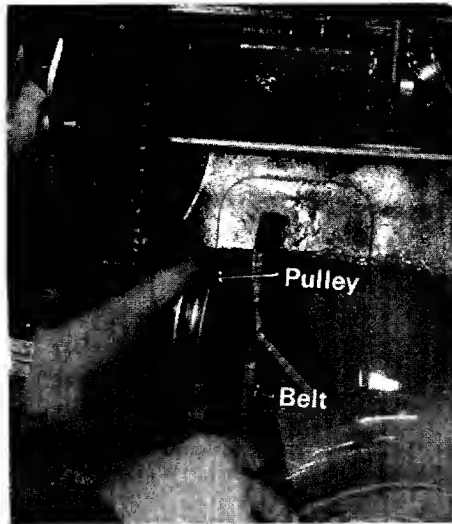

Figure 24
- 8 Remove the belt. (See figure 24.)